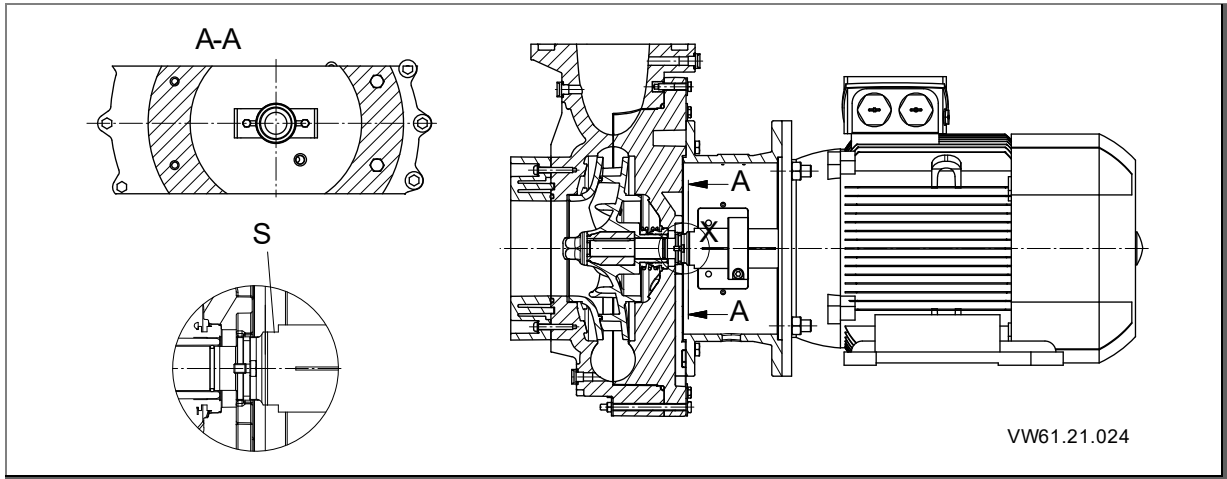

Fig. 9
1. Loosen the coupling protection (681) from the drive lantern (341).
2. Hold the pump shaft (210) at the opening. See "Fig. 9" on page 27
3. Loosen the impeller nut (922) with the inserted o-ring (412.4).
4. Remove the impeller (230). Place the impeller on a clean and level surface.
5. Remove the shaft key (940) from the shaft key nut.
6. Remove the rotating insert in the mechanical seal (433) from the impeller hub.
7. Loosen hexagon screws (901).
8. Loosen the gland housing (161) from the lantern (341).
9. Remove the counter ring in the mechanical seal (433) from the gland housing (161).
1. Insert shaft key (940) into shaft key nut.
2. Push the impeller (230) onto the shaft (210).
3. Hold the pump shaft at the opening. See "Fig. 9" on page 27
4. Fasten the impeller nut (922), with the inserted O-ring (412.4). Observe the torque! See point 8.6 on page 27
4. Pull both lockwashers (931) completely out of the shaft nut. See "Fig. 9" on page 27